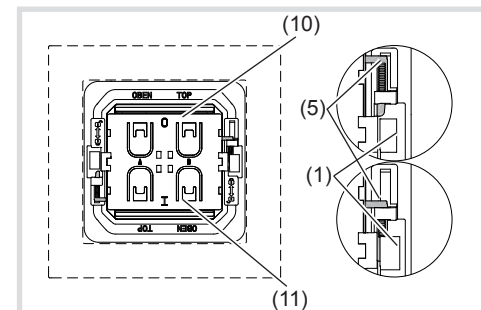

Figure 4: Unlocked and locked radio module
- Place the frame (2) onto the supporting plate along the locking spigots (1).
- Place the EnOcean radio module (3) onto the supporting plate over the locking spigots. In so doing, observe the labelling in the centre of the module – 0 must be at the top (10) and 1 at the bottom (11).
- Push the yellow locking pins (5) on the left and right of the radio module upwards/downwards under the locking spigots (1) up to the stop (Figure 4).